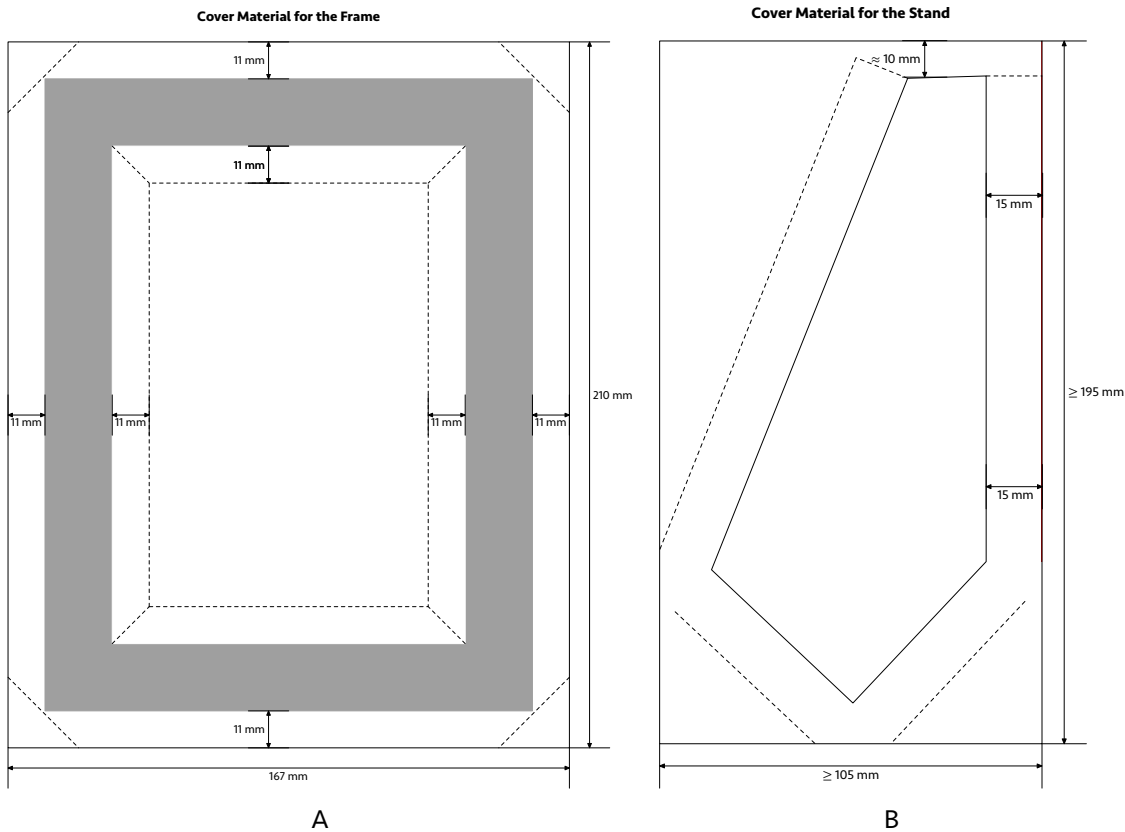

Figure 3 Cover material for the frame and stand
- Cut the outside corners as indicated in figure 3 A with scissors. The distance for cutting from the board corner is ca. 3 mm. On the cutting mat we also cut the turn-ins inside the window as indicated with the knife, eyeballing the cut.
- Glue the cover material in. After letting it settle place the backplate onto the cover material using the afore placed marking lines for positioning. Rub it down on the outside. Trim off the triangles as indicated in figure 3 A
- Put the stand down onto another piece of covering material in such a way, that at the top and at the right side there is 15 mm free. Trace the piece in this position with pencil; see also in figure 3 B.